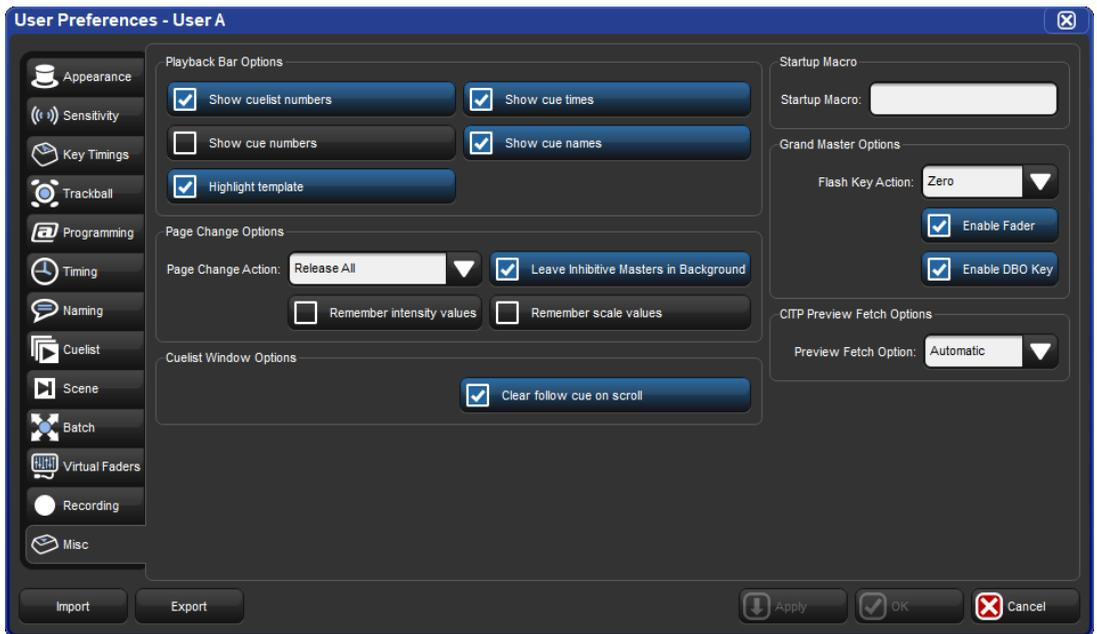

Figure 18.1. The Misc pane of the User Preferences window
- Setup → Preferences → Misc : see *Figure 18.1, “The Misc pane of the User Preferences window”*.